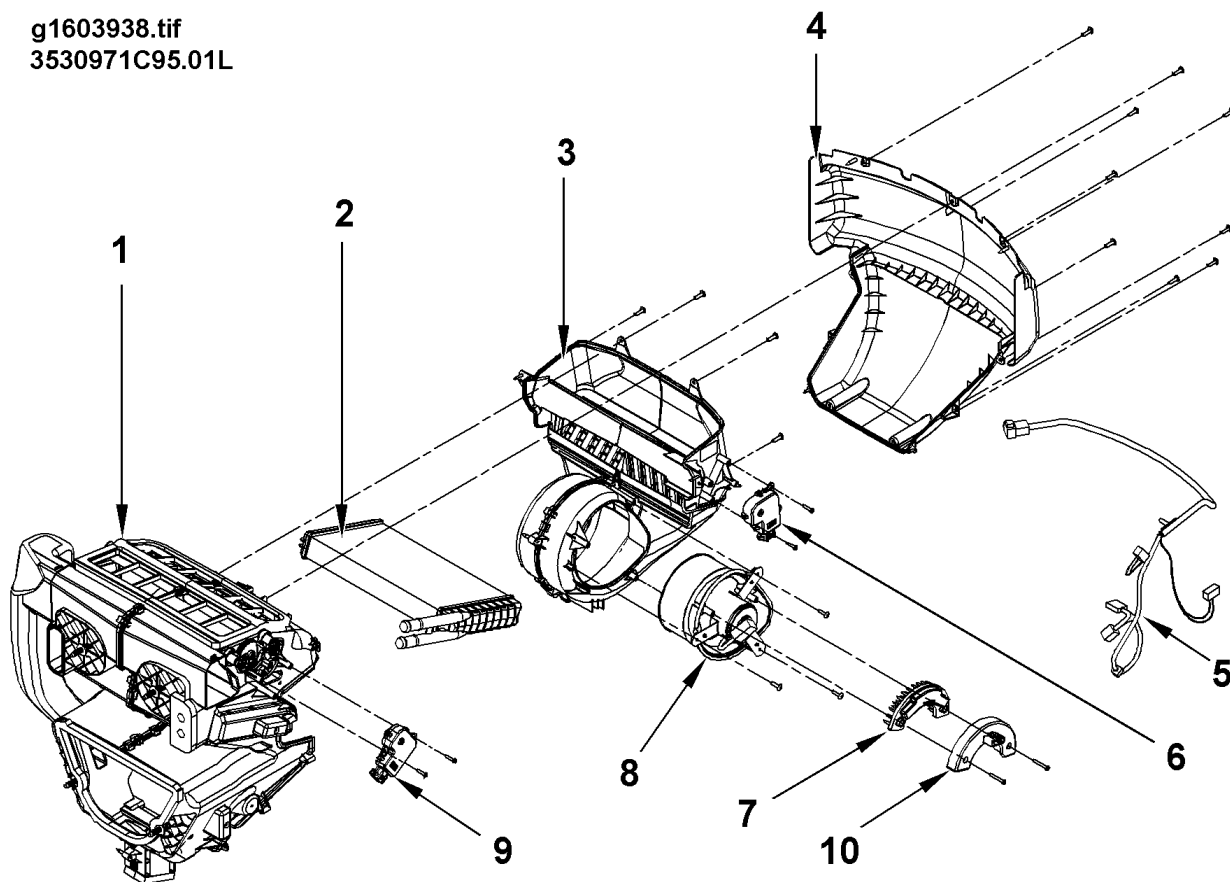

Figure 38 Heater Unit Exploded View
NOTE – Refer to Figure 38 while performing the following Remove and Install procedures.
2. Remove trim panels, as necessary, to gain access to mounting screws for heater trim cover (4, Figure 38).
5. Disconnect electrical plug connected to temperature blend door actuator (6).
6. Remove two screws securing actuator to blower scroll housing (3), and pull actuator straight off of temperature blend door shaft.
2. Secure actuator to blower scroll housing (3, Figure 38) using two screws.
3. Connect electrical control plug to temperature blend door actuator (6).
4. Secure heater trim cover (4) to heater housing with nine screws.
2. Remove trim panels, as necessary, to gain access to heater trim cover (4, Figure 38) mounting screws.
5. Disconnect electrical plug connected to mode door actuator (9).
6. Remove two screws securing actuator (9) to heater housing (1), and pull actuator straight off of mode door shaft.
1. Carefully slip actuator (9, Figure 38) onto end of mode door shaft so that mounting holes are properly aligned, if possible. If actuator drive collar must be moved to allow alignment:
2. Secure actuator to heater housing (1) using two screws.
3. Connect electrical control plug to mode door actuator motor (9).
NOTE – Refer to Figure 38 while performing the following steps.
2. Disconnect electrical plug connected to the temperature door actuator (6, Figure 38).
3. Remove four screws securing blower scroll housing (3) to heater housing assembly (1).
1. If removed previously, install blower assembly (8, Figure 38), using three screws.
2. If removed previously, install linear power module (7) and LPM cover (10), using two screws.
3. If temperature door actuator was removed previously, install actuator by rotating door until flats on door shaft align with actuator drive collar, if possible; then carefully slip the actuator (6) onto end of door shaft so that mounting holes are properly aligned. If actuator drive collar must be moved to allow alignment:
4. Secure actuator to blower scroll housing (3) using two screws.
5. Before installing blower scroll housing, verify that heater core (2) is installed in heater housing (1). To install the heater core refer to HEATER CORE, REMOVE AND INSTALL (See HEATER CORE – FRONT HVAC SYSTEM, page 104).
1. Remove blower scroll housing (3, Figure 38), refer to BLOWER SCROLL HOUSING, REMOVE AND INSTALL (See BLOWER SCROLL HOUSING, page 102).
2. Detach linear power module (7) and LPM cover (10) from blower scroll housing (3) by removing two mounting screws.
3. Remove blower assembly (8) by removing the three screws securing it to the scroll housing (3).
1. Install blower assembly (8, Figure 38) by securing it to the scroll housing (3) with three screws.
2. Secure linear power module (7) and LPM cover (10) to blower scroll housing (3) with two screws.